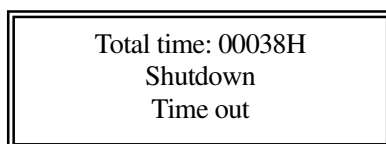

Fig. 7 Shutdown display
6) **Automatic shutdown:** After reaching the preset oxygen generation time, oxygen generator will automatically shut down. The display of LCD is shown in Fig. 7.